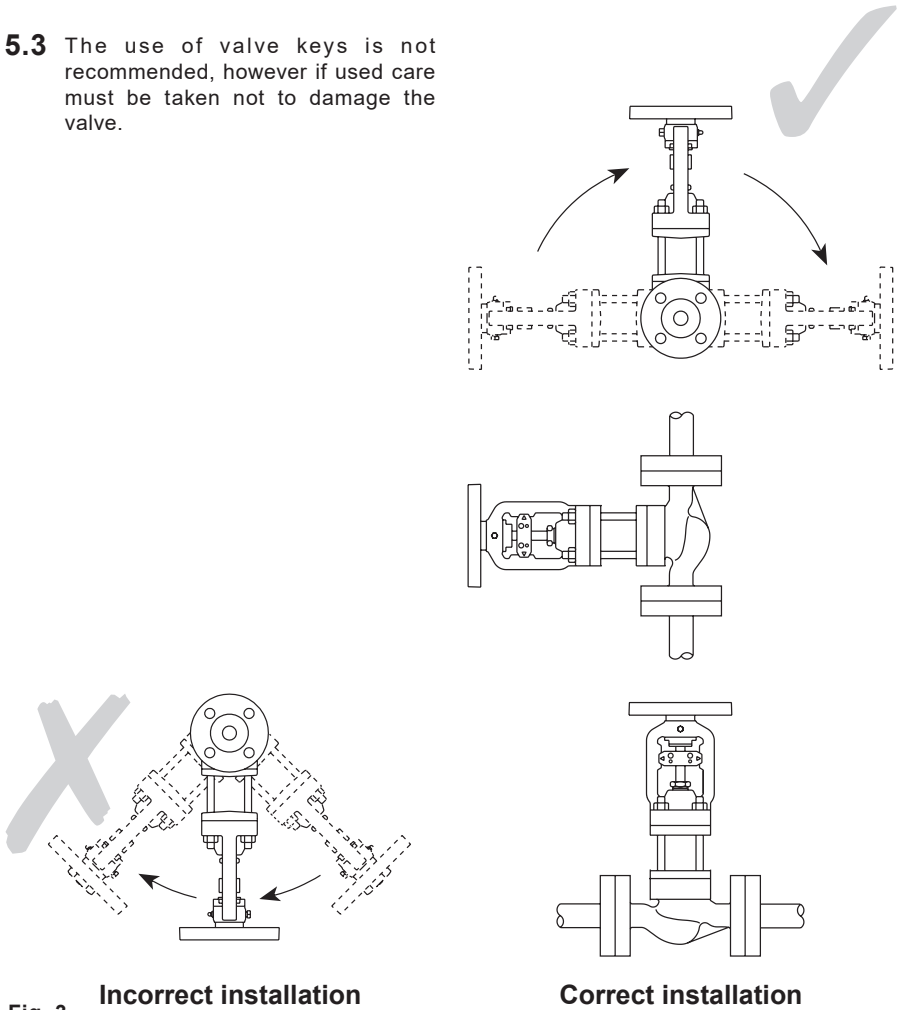

Fig. 3 Incorrect installation
- 3.3** Install the valve in the direction of flow given by the arrow on the body. The preferred position is with the spindle vertical. The valve can be installed from the vertical to the horizontal plane (see Figure 3).